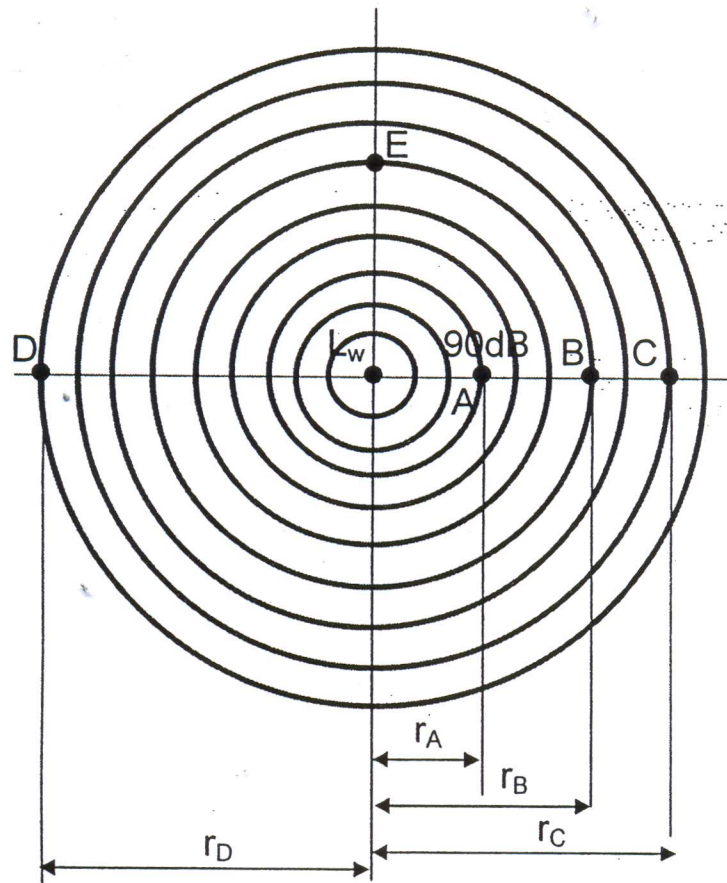

Figure Q3: Sound Pressure Level
Referring figure Q3, for directivity (Q) at free field condition, calculate the Sound pressure level (SPL) for each points B,C,D,E when the sound pressure level (SPLA) is 90dB and radius (rA) is 2m..